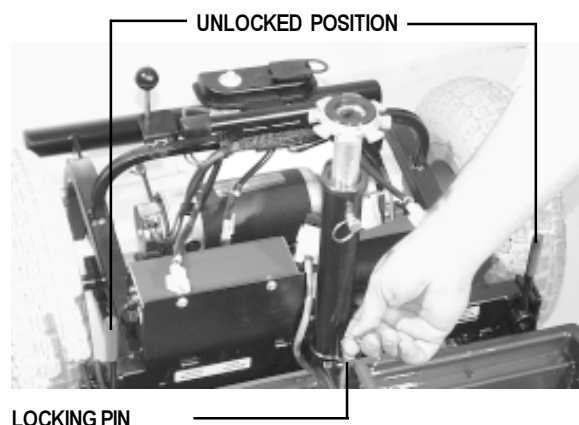

Figure 14. Cam Lock Levers and Locking Pin
9. Remove the locking pin from the frame. See figure 14.
10. Move the cam lock levers to the unlocked, vertical position. See figure 14.